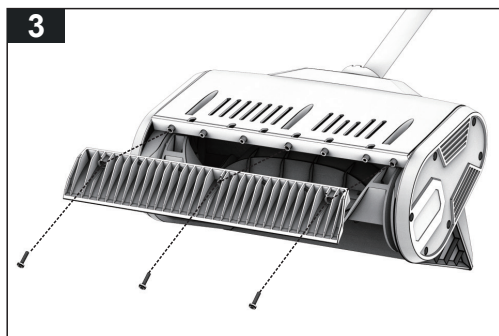

Fig. 15
- Install the new scraper blade and fasten it securely to the housing with the 3 screws. (Fig.15)